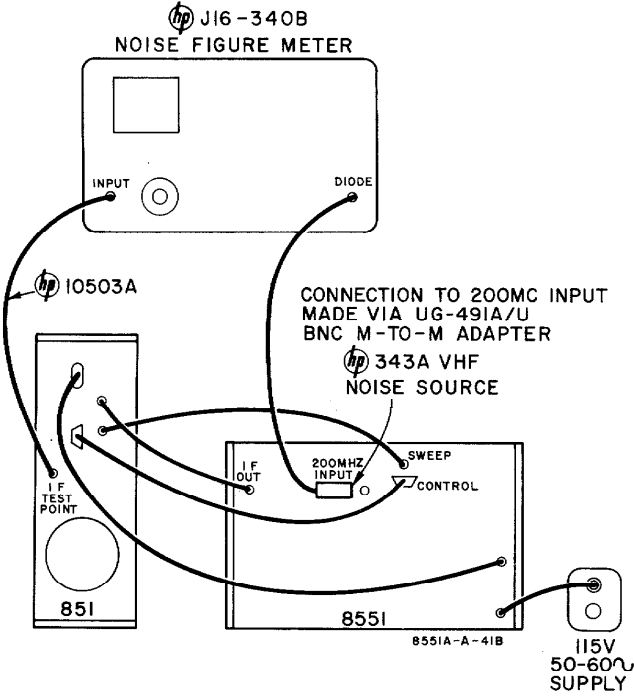

Figure 5-10. Setup, 200-Mc IF Noise Figure Measurement
a. Setup. See Figure 5-10.
- (1) Disconnect external jumper cable from 200 MHZ OUTPUT, and connect 343A Noise Source to 200 MHZ INPUT.
- (2) Connect 8551 to 851, and noise figure meter INPUT to IF TEST POINT on 851 rear panel.
- (3) Set 8551 LINE to ON and check that SIGNAL IDENTIFIER is at OFF.
b. Procedure. Instructions given assume use of equipments shown in Figure 5-10. On J16-340B Noise Figure Meter:
- (1) Set INPUT. 20 Mc NOISE SOURCE. DIODE NOISE FIGURE (rear panel) AUTO
- (2) Switch METER FUNCTION to 4 mA, and adjust DIODE CURRENT to 3.31 mA.
- (3) Measure noise figure: